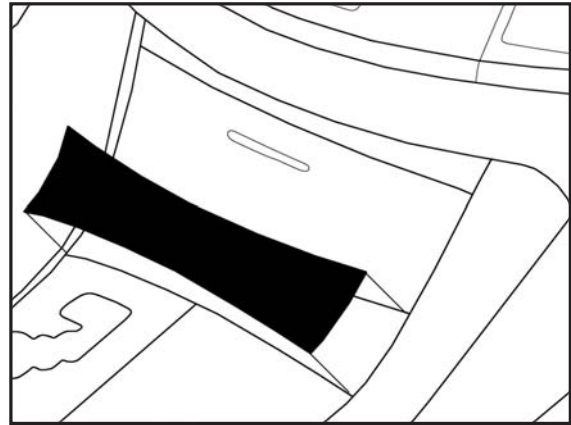

Fig. I1
A. Align part uniformly to edge of factory components. Edge of appliqué should be flush to edge of factory component,  $\pm 1.0\text{mm}$ . (Fig. I1).